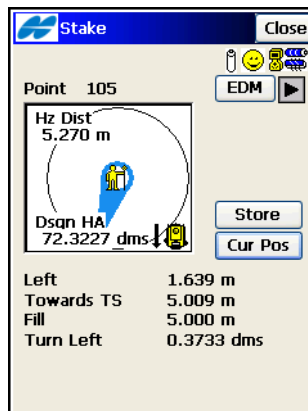

Figure 9-13. Stakeout Point & Direction – Stakeout
5. For TS: sight the prism. In the **Stakeout** screen tap the **Cur Pos** button to check the position. Use the **EDM** button to select distance measurement mode: Coarse, Fine or Coarse Tracking. Once the position is close enough to the desired one, tap **Meas** to store it (Figure 9-13).